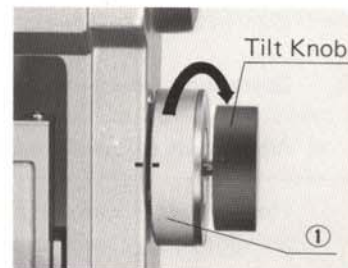

Fig. 14
1) Rotate the tilt tension adjustment ring ① clockwise until the microscope body does not overturn by its own weight. (Fig. 14)